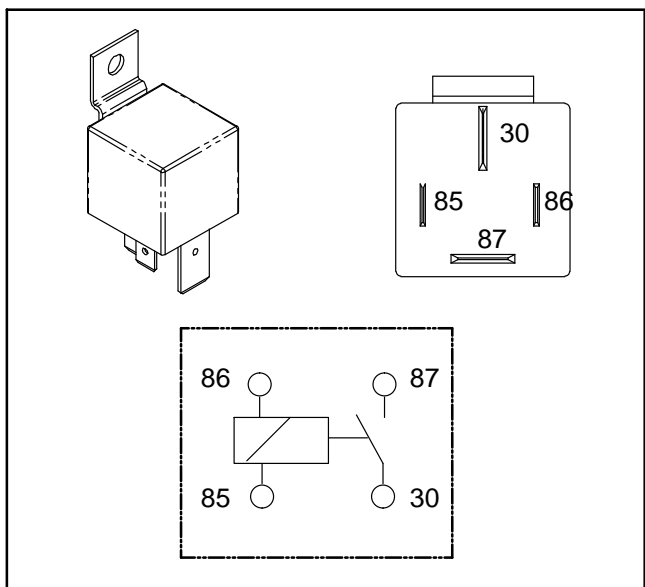

Figure 53
3. Measure coil resistance between terminals 85 and 86 with a multimeter (ohms setting) (Fig. 53). Resistance should be approximately **72 ohms**.